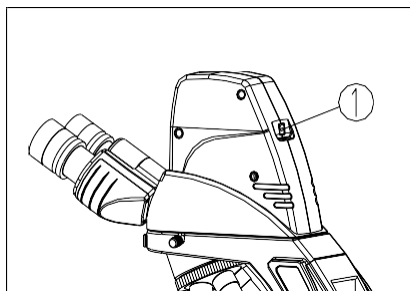

Fig. 41
Insert one end of USB data cable into the USB output port① on the back of observation head, and the other end into the USB interface of PC (see Fig. 41). View the microscope video by the corresponding video capture and analysis software, and the binocular observation is also supported.